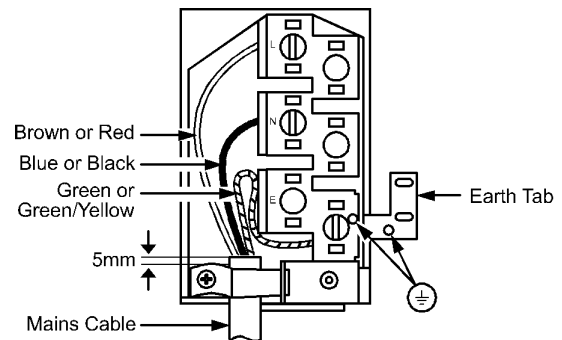

Fig.7
- Make connection as shown in Fig. 7 by proceeding as follows:-
- Clamp the mains cable securely ensuring 5mm of the outer insulation is inside the terminal block and that the wires are not taut but not so slack as to cause any damage. See Fig. 7.